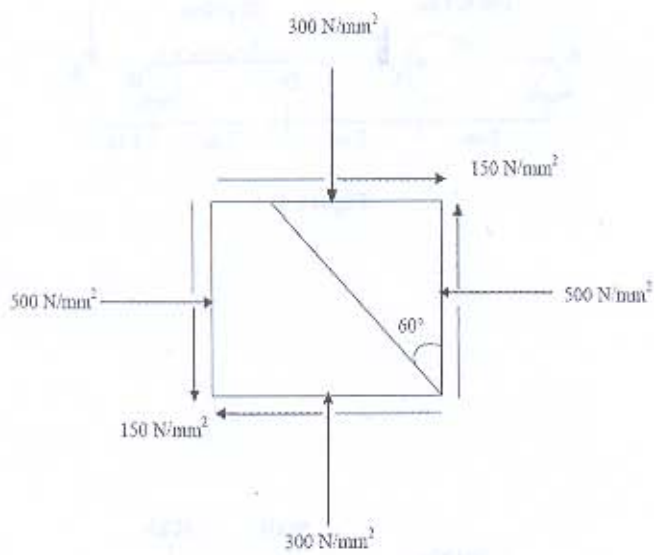

Figure 9
- (b) A point in a strained material is subjected to normal and shear stress as shown in **Figure 9**. Determine Normal (p_n), Tangential (p_t) and Resultant (p_r) stresses on a plane inclined at 60° with vertical as shown in **Figure 9**. Also find major and minor principal stresses and maximum tangential stress ($p_{t \max}$) and its location.